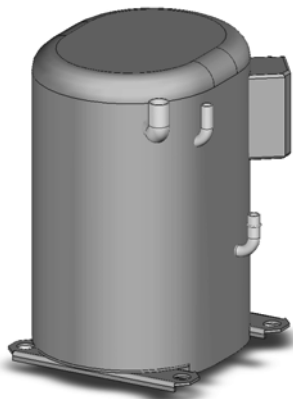

Figure 5-3 Compressor
4. Locate the compressor contactor behind the right side panel and disconnect the two blue wires at terminal #82 (Refer to Figure 5-3).
The E131 and F131 have hermetic reciprocating compressors (Refer to Figure 5-3).